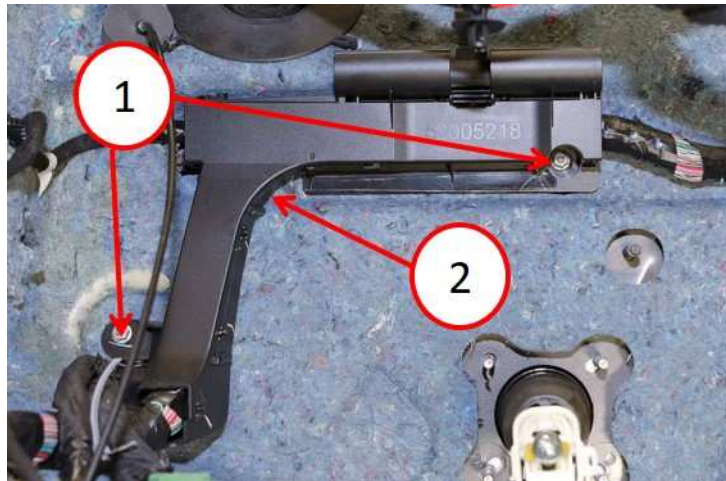

Fig. 7
14. Remove the two interior wiring harness cover nuts (Fig. 7) from the studs.